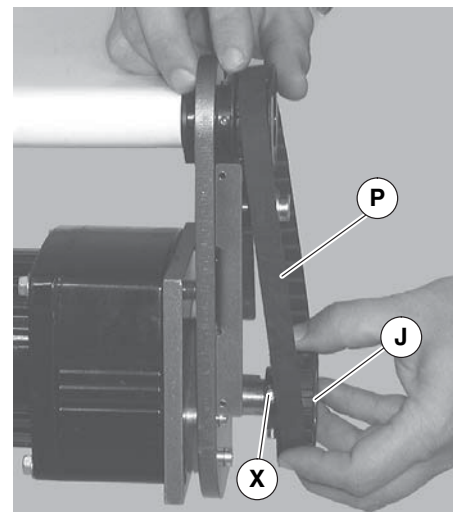

Figure 19
If drive pulley (Figure 19, item J) is replaced, wrap timing belt around drive pulley and complete step 3.
6. Loosen drive pulley set screws (Figure 19, item X). Remove drive pulley (J) and timing belt (P).
Drive pulley (Figure 19, item J) is removed. Wrap timing belt around drive pulley and complete step 10.